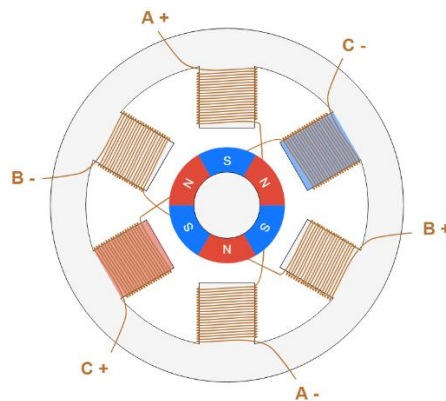

Figure 3: Permanent Magnet Stepper Motor
- **Permanent magnet rotor:** The rotor is a permanent magnet that aligns with the magnetic field generated by the stator circuit. This solution guarantees a good torque and also a detent torque. This means the motor will resist, even if not very strongly, to a change of position regardless of whether a coil is energized. The drawbacks of this solution is that it has a lower speed and a lower resolution compared to the other types. Figure 3 shows a representation of a section of a permanent magnet stepper motor.
- **Hybrid rotor:** This kind of rotor has a specific construction, and is a hybrid between permanent magnet and variable reluctance versions. The rotor has two caps with alternating teeth, and is magnetized axially. This configuration allows the motor to have the advantages of both the permanent magnet and variable reluctance versions, specifically high resolution, speed, and torque. This higher performance requires a more complex construction, and therefore a higher cost. Figure 3 shows a simplified example of the structure of this motor. When coil A is energized, a tooth of the N-magnetized cap aligns with the S-magnetized tooth of the stator. At the same time, due to the rotor structure, the S-magnetized tooth aligns with the N-magnetized tooth of the stator. Real motors have a more complex structure, with a higher number of teeth than the one shown in the picture, though the working principle of the stepper motor is the same. The high number of teeth allows the motor to achieve a small step size, down to 0.9°.